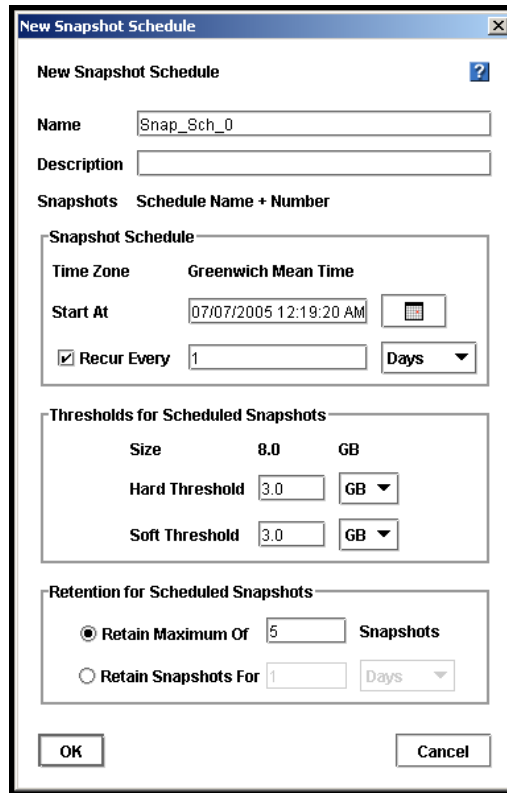

Figure 179. Creating a Snapshot Schedule
3. From the Tasks menu, select New Schedule. The New Snapshot Schedule window opens, shown in Figure 179.